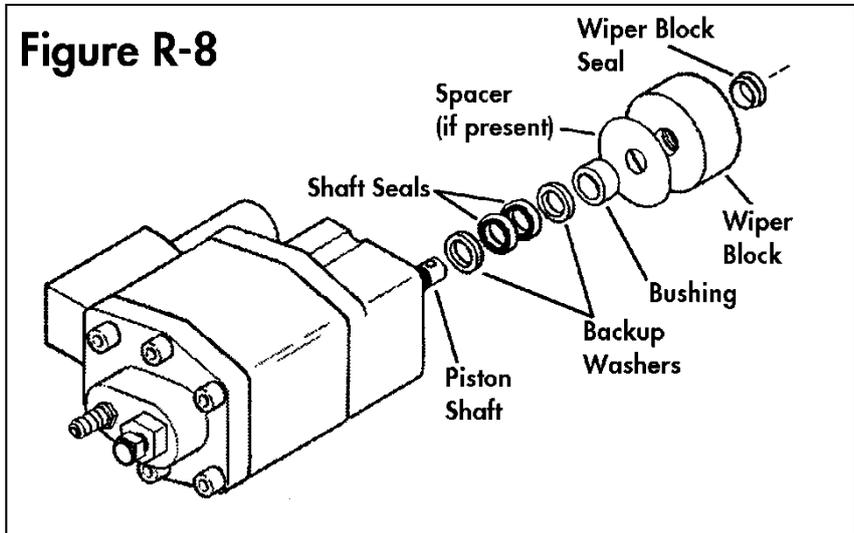

Figure R-8
- Refer to **Figure R-8**. Slide one backup washer over the piston shaft and down into the shaft bore in the pump back plate. Slide one of the shaft seals over the end of the piston shaft with its flared side (the side with an embedded o-ring) facing the pump back plate. Slide it down the shaft and gently work it into the shaft bore. Install the second shaft seal in exactly the same way, with its flared side also facing the pump back plate. Work it into the shaft bore and press both seals in until the back of the second seal is about flush with the top of the shaft bore. Next, slide on the second backup washer, followed by the white plastic piston shaft bushing. Finally, slide the piston installation tool onto the piston shaft, small end first, and use it to push the backup washers, piston shaft seals and bushing all the way into the shaft bore, until the outside face of the bushing is flush with the top of the shaft bore. Remove the piston installation tool. If it was present when you disassembled the pump, install the thin plastic spacer washer.